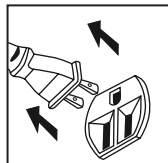

Fig. 1
1. Verify the power cable is not plugged into the power supply (Fig. 1) Verify the container is clean and free of dust or garbage.